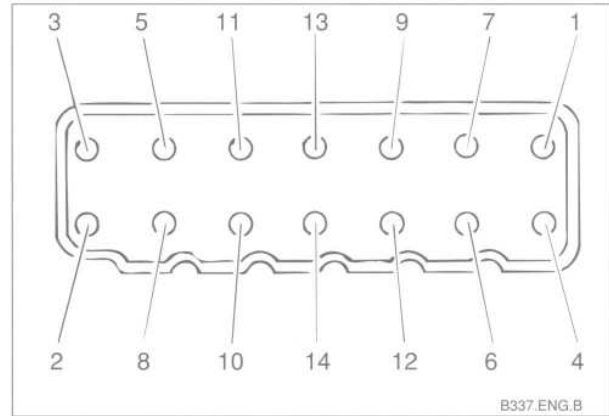

Fig. 41. Cylinder head bolt loosening sequence.
- Gradually and evenly loosen and remove the cylinder head bolts using the sequence shown in Fig. 41. Remove the cylinder head.